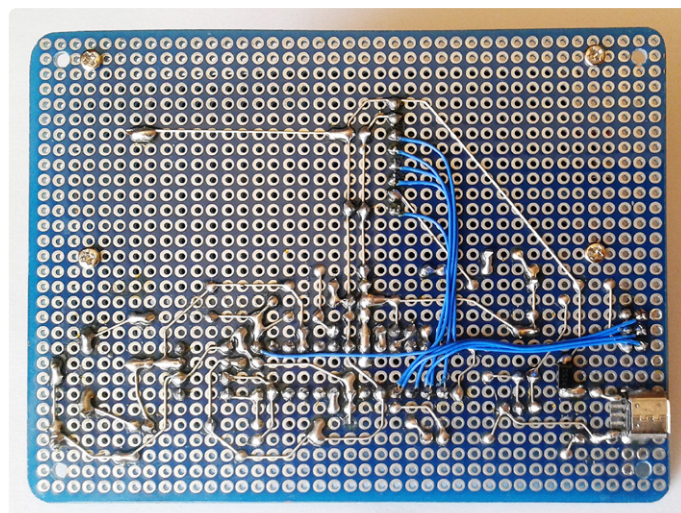

Figure 6: Solder side of the prototype.
**Figure 6** shows the soldering side of the prototype, on which D1 diode (SMD type) and the micro-USB charging connector are also located.